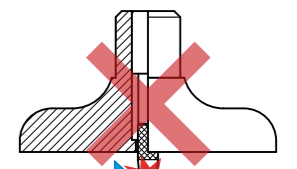

Fig. 4
1. Do not move the contact point rapidly nor apply force in the transverse direction, otherwise operation and accuracy may be adversely affected. (Fig. 4)